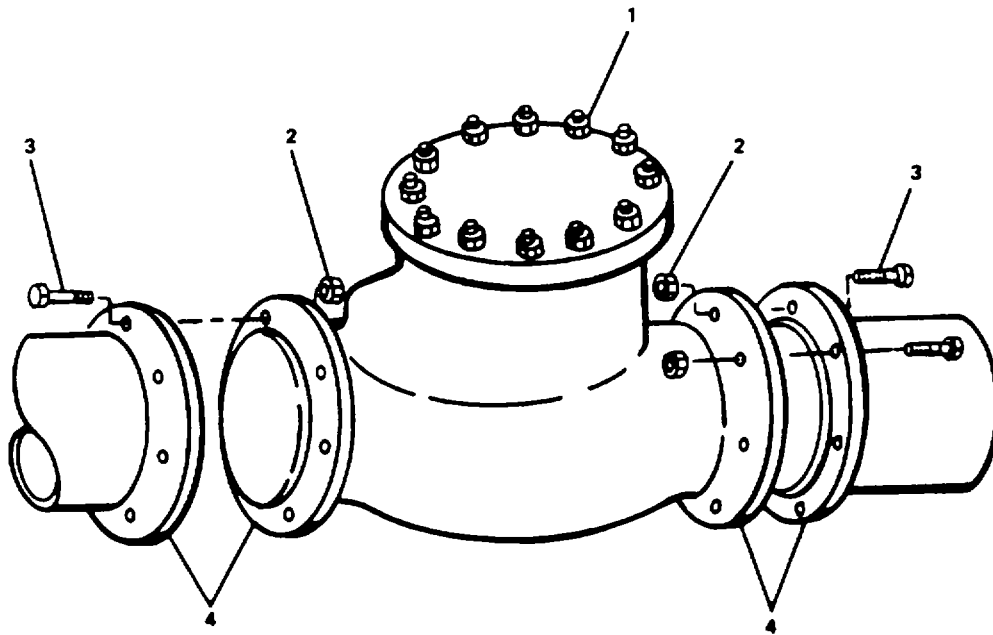

Figure 2-89. Remove Swing Check Valve. Typical.
- a. Place a utility pail under check valve (1, Figure 2-89).
- b. Remove nuts (2) and bolts (3) from flanges (4).